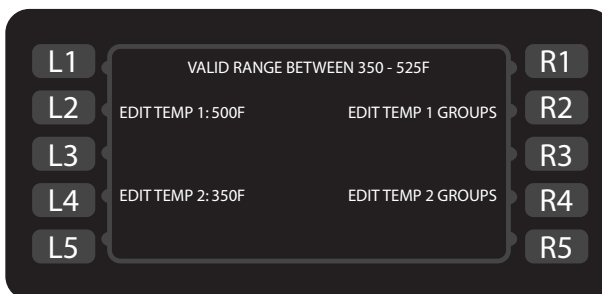

Figure 29: Temperature Edit Screen
2. Select the temperature to change by pressing the adjacent soft key (Figure 29).
2. Select a “block” of food groups by pressing the corresponding right-side soft key (Figure 29, page 17).